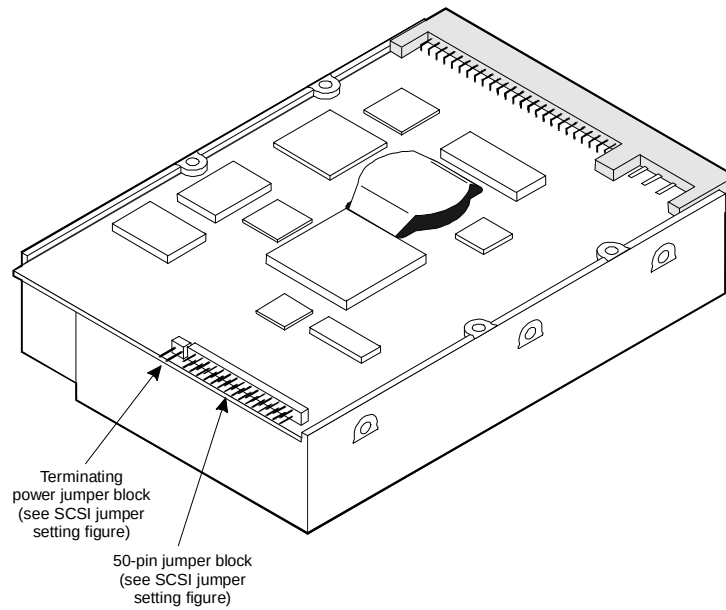
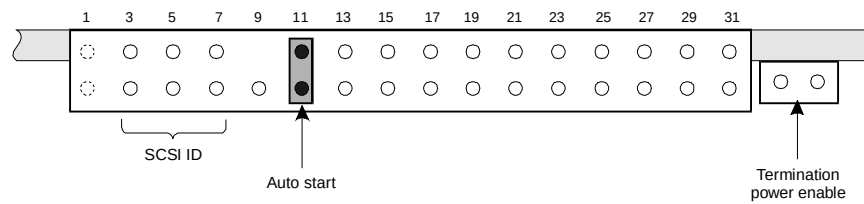
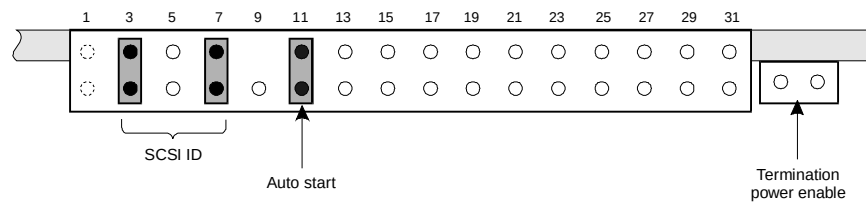

Figure A-11. Jumper Locations on the 2-Gbyte SCSI Hard Disk Drive (Comcode 407340942)
Figure A-12. Jumper Settings for the First 2-Gbyte Disk Installed; Bay 1, SCSI ID = 0
**Figure A-17. Jumper Settings for the Sixth 2-Gbyte Disk Installed;
- Figure A-11 shows the location of the jumpers on the 2 Gbyte SCSI hard disk drive (Comcode 407340942). Figure A-12 through Figure A-17 show the jumper settings.